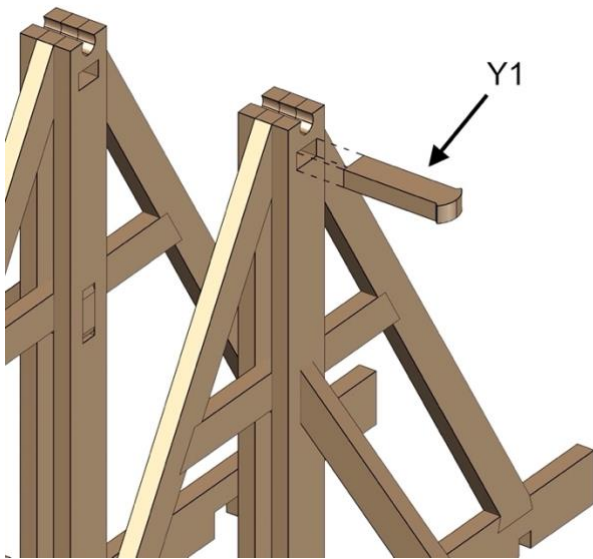

Fig. 16
- Align parts exactly as shown in Fig. 16.